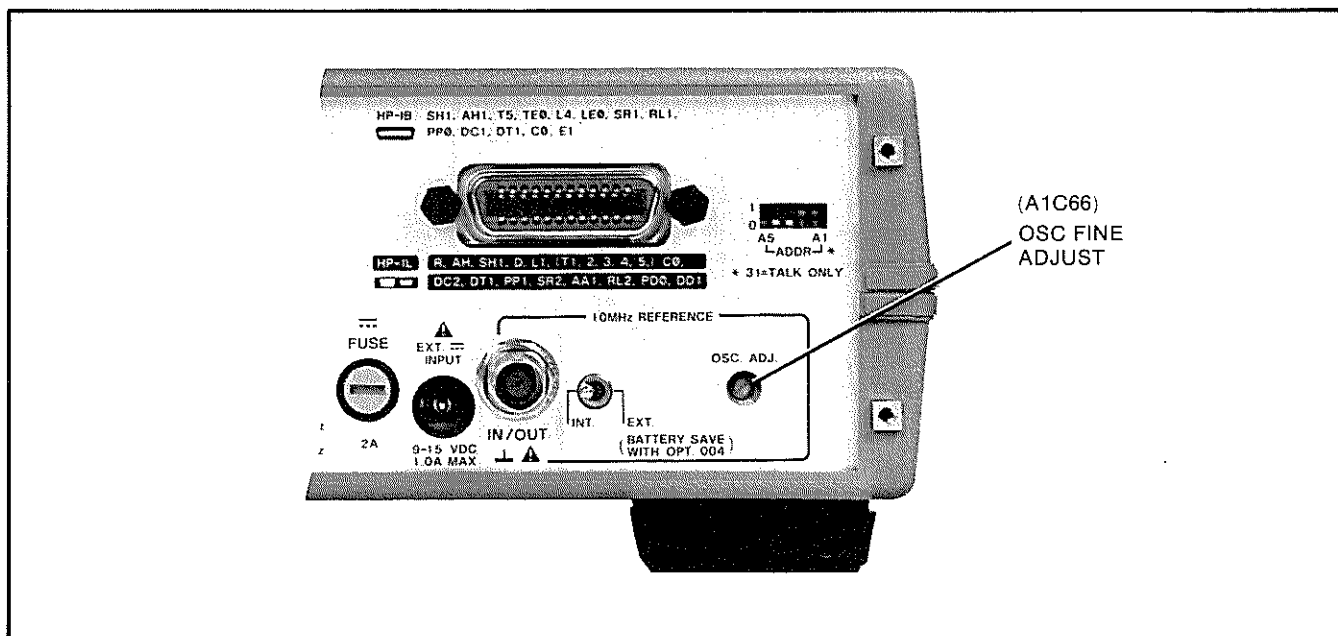

Figure 5-5. Standard Oscillator Adjustment
- d. Adjust A1C66 (fine adjustment, see Figure 5-5) until the 5384A displays 10.000000 E6 ±2 counts. If A1C66 does not have enough range for this adjustment,